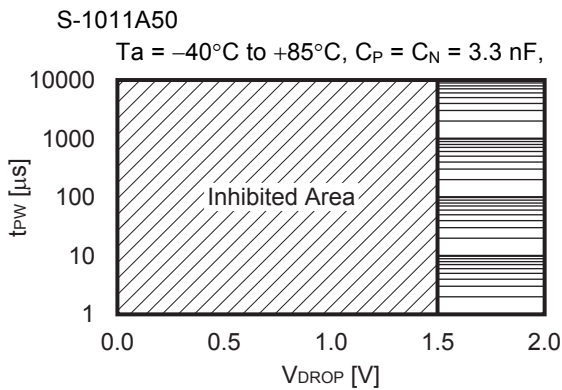

Figure 40
Figure 40 and **Figure 41** show the relation between pulse width (t_{PW}) and V_{DD} lower limit (V_{DROP}) where a release signal can be output after the normal release delay time has elapsed when the VDD pin (VDD detection product) instantaneously drops to the detection voltage (-V_{DET}) or lower and then increases to the release voltage (+V_{DET}) or higher during release delay time.
1. **Figure 40** and **Figure 41** show the input voltage conditions when a release signal is output after the normal release delay time has elapsed. When this is within the inhibited area, release may erroneously be executed before the delay time completes.
2. When the VDD pin voltage is within the inhibited areas shown in **Figure 40** and **Figure 41** during release delay time, input 0 V to the VDD pin then restart the S-1011 Series.